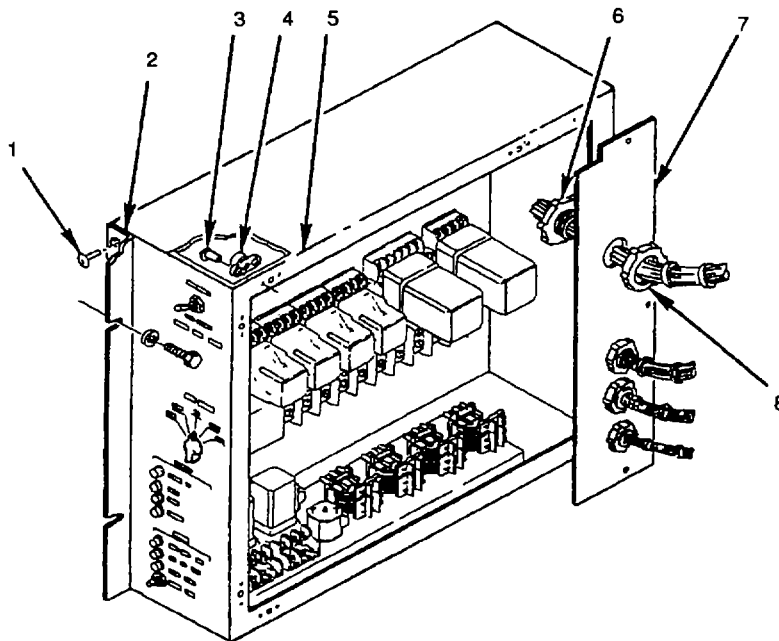

Figure 4-35. Electrical Box
- (1) Disconnect air conditioner input power at source; and
- (2) Remove control box assembly (paragraph 4.27)
- a. Inspect mounting bracket (2) for missing rivets (1) Replace if missing (see fig. 4-35).
- b. Inspect electrical box (5) for missing or damaged floating locknuts (4) or missing rivets (3) Replace if missing or damaged.
- c. Inspect wire entry panel (7) for missing or damaged bushings (6, 8) Replace if missing or damaged.